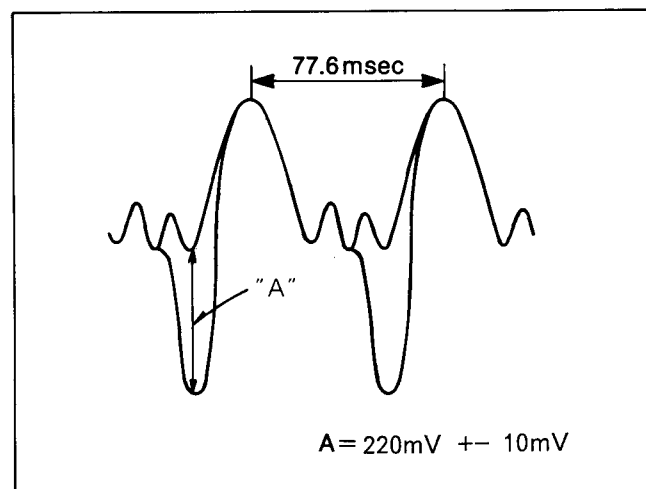

Fig. C12
- (1) Aim the camera to J chart.
- (2) Adjust the VR327 (Iris control) so that voltage at TP515 becomes 300mV $\pm$ 10mV.
- (3) Adjust the VR202 (CCD OUT control) so that level "A" becomes 220mV $\pm$ 10mV as shown in Fig C12.